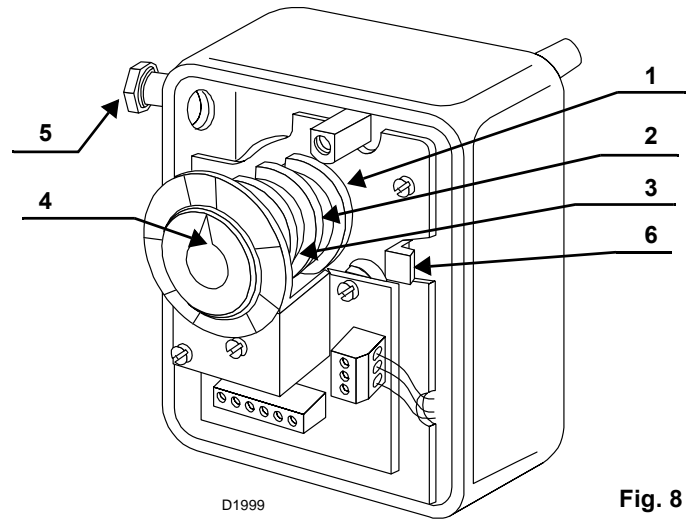
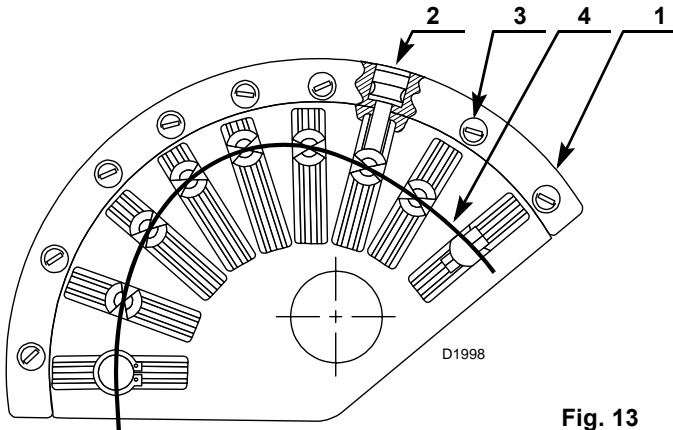

Fig. 8
Fig. 13
- Acting on the re-set lever 6) Fig. 8 disjoin the cam 1) Fig. 13 from the motor of the servomotor.
- Turn manually and slowly the cam with adjustable profil 1) Fig. 13 firmly connected to the eccentric 8) Fig. 10 and check the pressure variation by the manometer 3) Fig. 10.
- If at maximum capacity of the nozzle (maximum pressure in the return line) pressure fluctuations are detected on the manometer (3), slightly decrease the pressure till their complete elimination.
The stroke of the combustion head is contemporaneous to the eccentric (8) Fig. 10 on page 16 movement and to that of the cam with adjustable profil (1) Fig. 13 on page 18. The combustion head position is noticed on the graduated cylinder (2) Fig. 12.
- Disjoint the articulation (2) from the lever (1) (see drawing).
- Unscrew the extension (3) from the tension rod (4) (some rounds).
- Re-connect the articulation to the lever and move the profile (4) (Fig. 13) up to reach the air damper set-point 0 with servomotor at 0°.